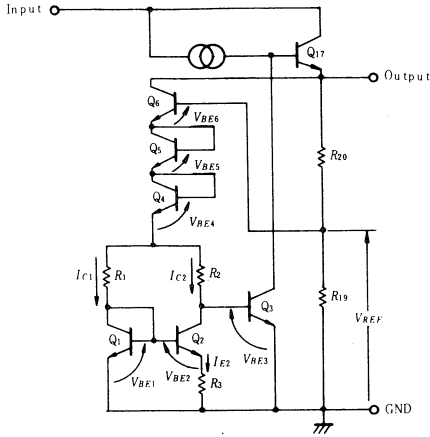

Fig.3 Circuit Generating Reference Voltage
For exemplaining the part generating the reference voltage, the equivalent circuit shall be shown in Fig. 3. As this figure shows clearly, the difference from the conventional method using zener diodes is that the reference voltage is generated by only the base-emitter forward characteristics of transistors. The reference voltage VREF is;
In equation (6), the first four terms in the right to equal sign are V_{BE} and have negative temperature coefficient. On the other hand, the last term has positive temperature coefficient. Then, give value to R_1 , R_2 and R_3 so that $V_{REF} \approx 5V_{\delta} V_{REF} / \delta T = 0$. This reference voltage source which utilize the base-emitter forward voltage of transistors has less noise than the conventional ones using zener diodes. The output voltage is as shown in Fig. 3;